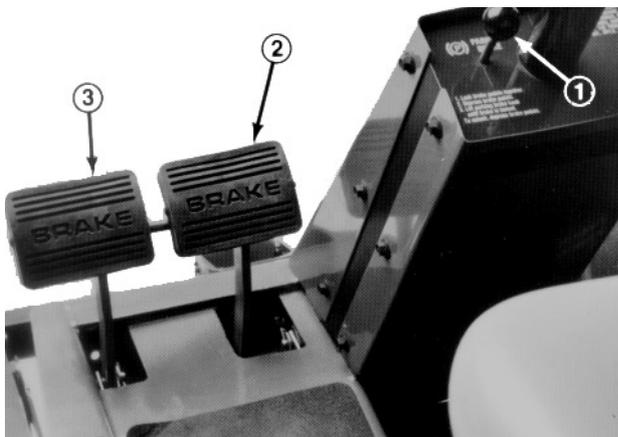
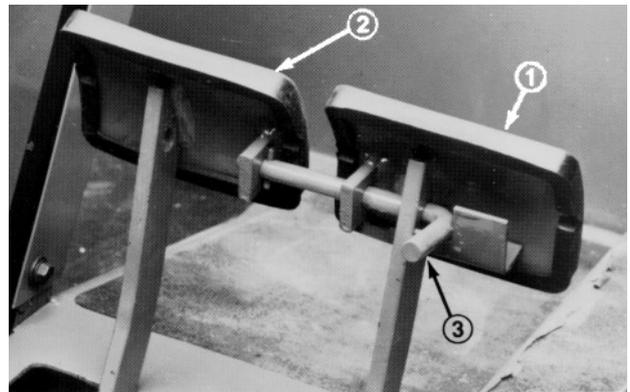

Figure 8
Figure 9
Service Brakes (Fig. 8)—The left and right brake pedals are connected to the left and right front wheels. Since both brakes work independently of each other, the brakes can be used to turn sharply or to increase traction if one wheel tends to slip while operating on certain slope conditions. However, wet grass or soft turf could be damaged when the brakes are used to turn sharply. To make a “quick-stop”, depress both brake pedals together. Always lock the brakes together when transporting the traction unit.
Parking Brake—Whenever the engine is shut off, the parking brake must be engaged to prevent accidental movement. To engage the parking brake, push lock arm (Fig. 9) on left brake pedal so that it locks together with the right pedal. Next, push down fully on both pedals and pull the parking brake knob out (Fig. 8) then release the pedals. To release the parking brake, depress both pedals until the parking brake knob retracts. Before starting the engine, however, the lock arm may be disengaged from the left brake pedal so both pedals work independently with each front wheel.
1. Ensure the parking brake is set, the PTO switch is in OFF and the lift lever is in the TRANSPORT or FLOAT position (Fig. 9). Remove your foot from the traction pedal and make sure it is in neutral.
2. Move the throttle control (Fig. 9) to the full FAST position.
3. When temperature is below 15°C (60° F), push glow plug switch to ON (Fig. 9) and hold for the suggested interval.